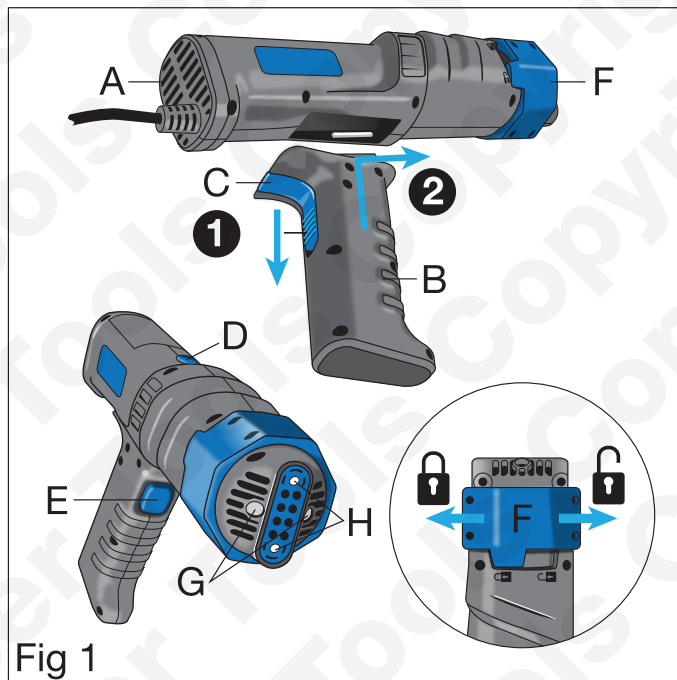

Fig 1
- Refer to Figure 1: Locate the legs of the chosen induction coil in the coil leg location sockets (**G**). Secure by turning the rotary coil lock (**F**) to the LOCK position (padlock symbol). Make sure the coil legs are secure and held tightly in the unit.